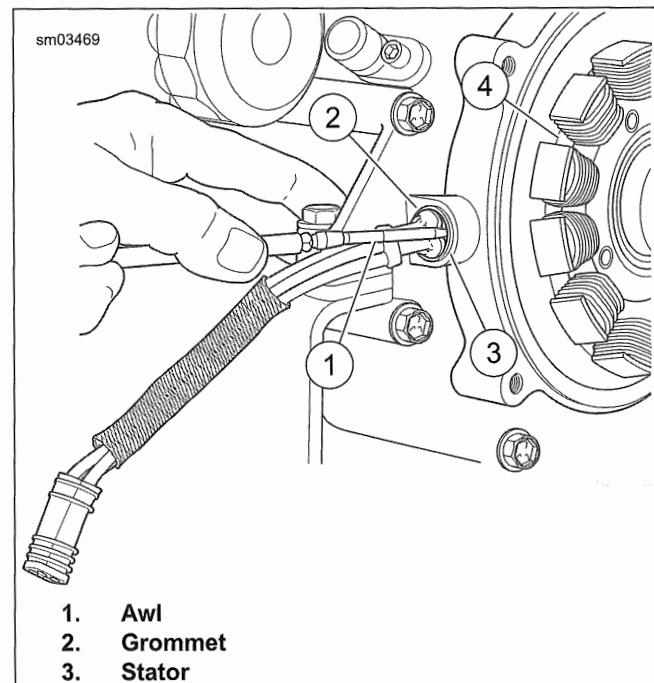

Figure 7-7. Remove Grommet From Crankcase (Typical)
4. Remove and discard screws (2).
5. See Figure 7-7. Remove grommet (2).
- a. Use the end of an awl (1) or small screwdriver to move grommet (2) away from crankcase.